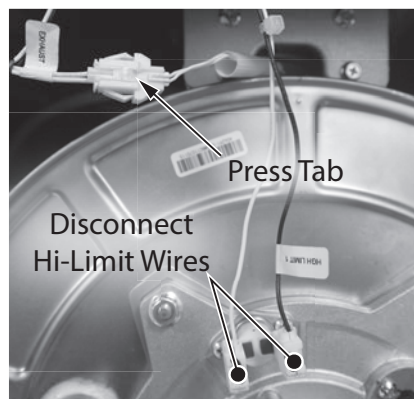

Figure 139 - Disconnect hi-limit and exhaust thermistor wiring
- 34** Locate the burner door hi-limit and exhaust thermistor wiring connected to the heat exchanger as shown in Figure 139. Disconnect the hi-limit wires (labeled "HI LIMIT 1") from terminals. Disconnect the thermistor wiring (labeled "EXHAUST") by pressing on the small tab while separating the wires.
63 Follow **Steps 34-35** in reverse order to connect burner door hi-limit and exhaust thermistor wiring. Confirm connections are tight and routed properly as shown in Figure 139.